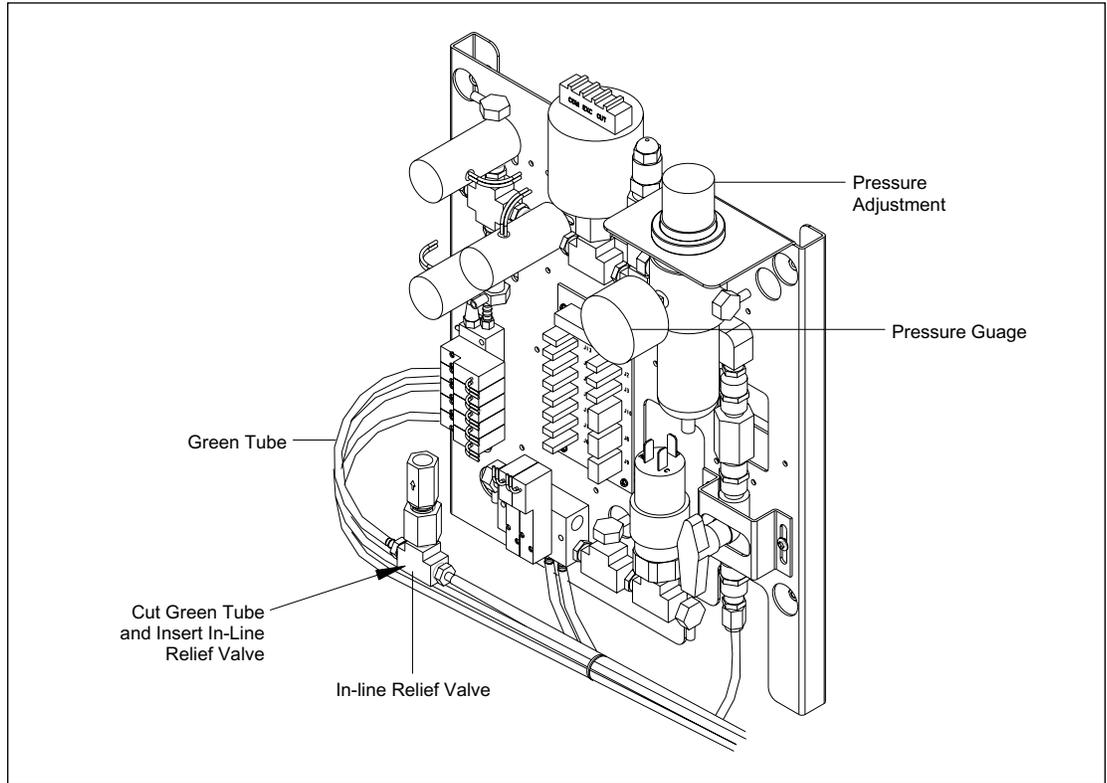

Figure 8-17. Pneumatics Panel.
1. Adjust the pressure adjustment on the pneumatics panel for 12 PSI on the pressure gauge (figure 8-17).